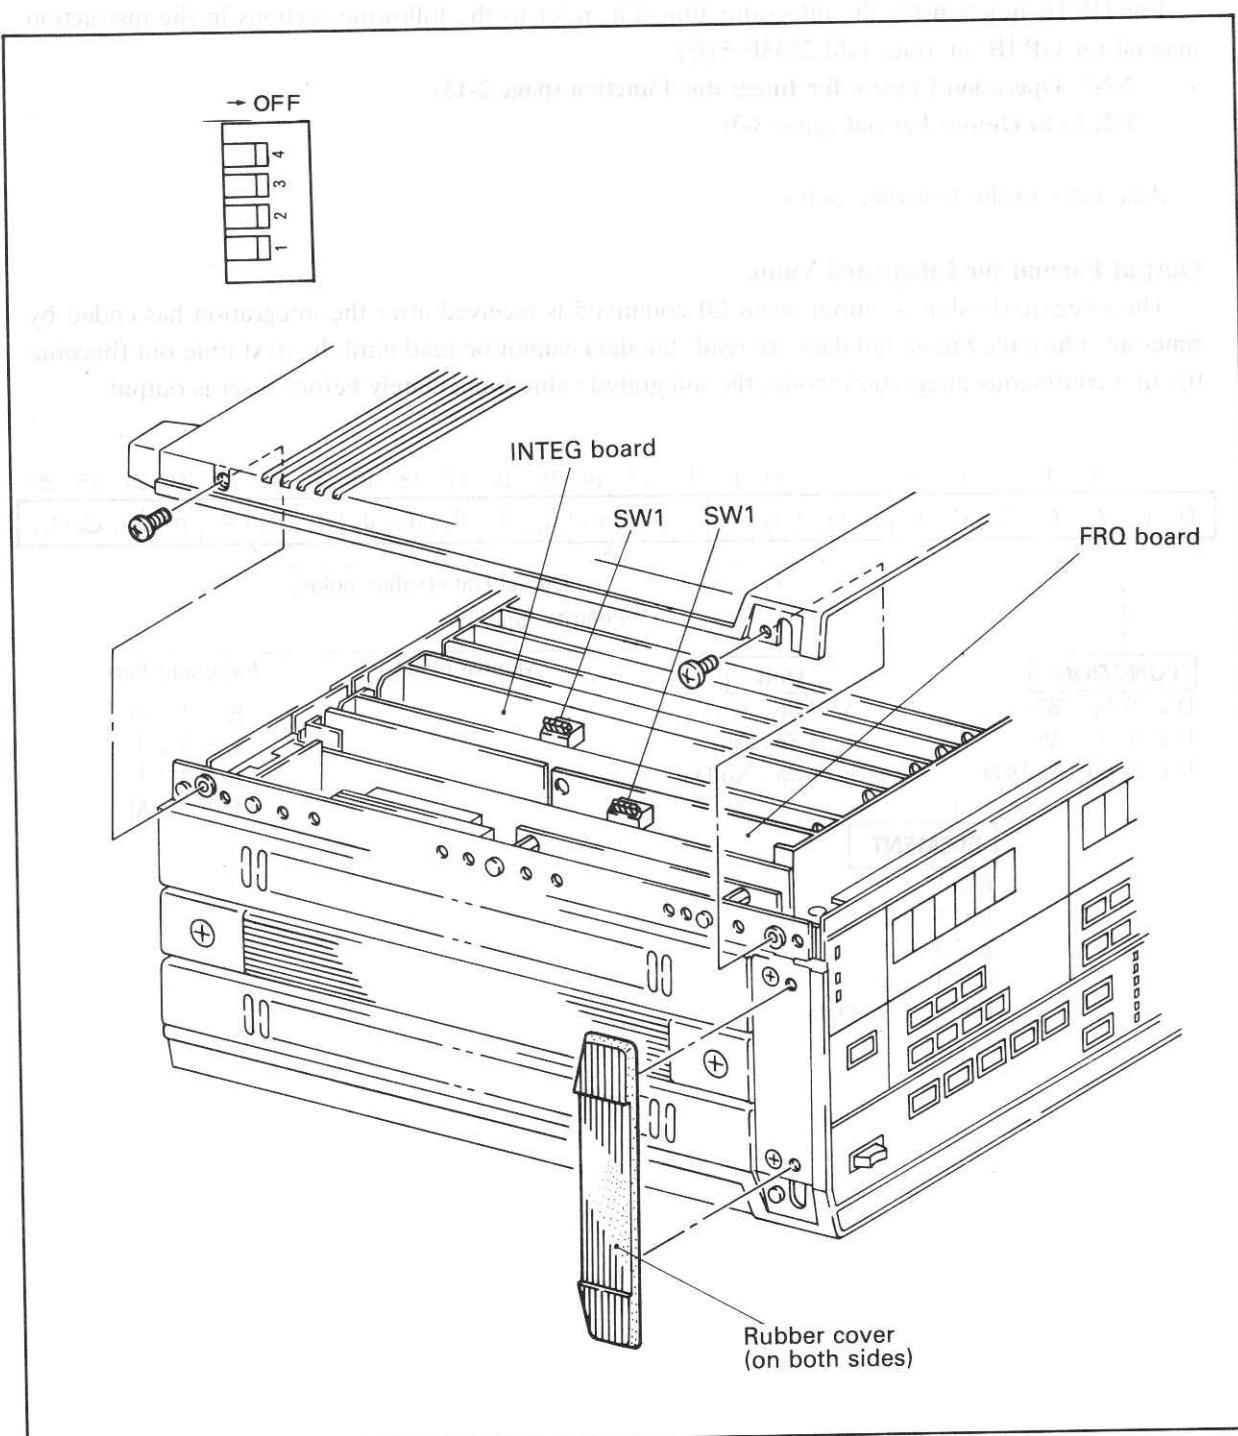

Figure 2-13.
- (1) Disengage the power cord from 2533E. Remove the rubber cover from the side front of 2533E (see Figure 2-13.). When a fixture is attached, remove it by a screwdriver referring to Figure 2-6 in the instruction manual of the mainframe.
- (2) Using a screwdriver, loosen 4 screws from the upper case.
- (3) Remove the upper case.